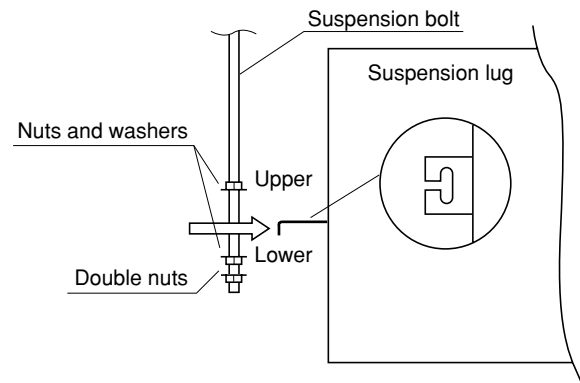

Fig. 3-6
(2) Thread the 3 hexagonal nuts and 2 washers (field supply) onto each of the the 4 suspension bolts as shown in Fig. 3-6. Use 1 nut and 1 washer for the upper side, and 2 nuts and 1 washer for the lower side, so that the unit will not fall off the suspension lugs.